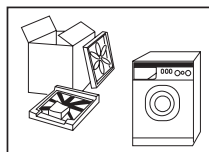

Fig 1
- As shown in figure1 remove all the packing materials (including the foam base).